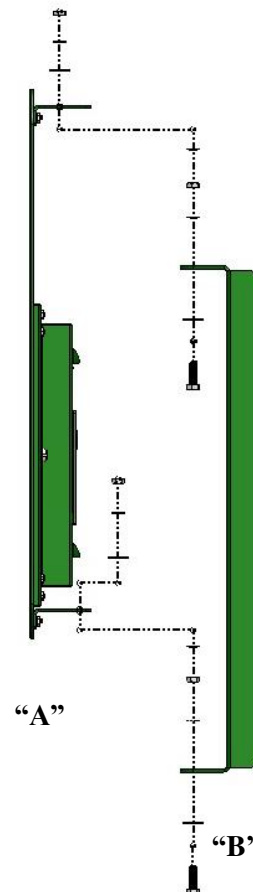

Figure 6-2. Connecting DFB Sign to Bracket
Assemble the DFB sign (A) to mounting bracket (B) as shown in Figure 6-2.